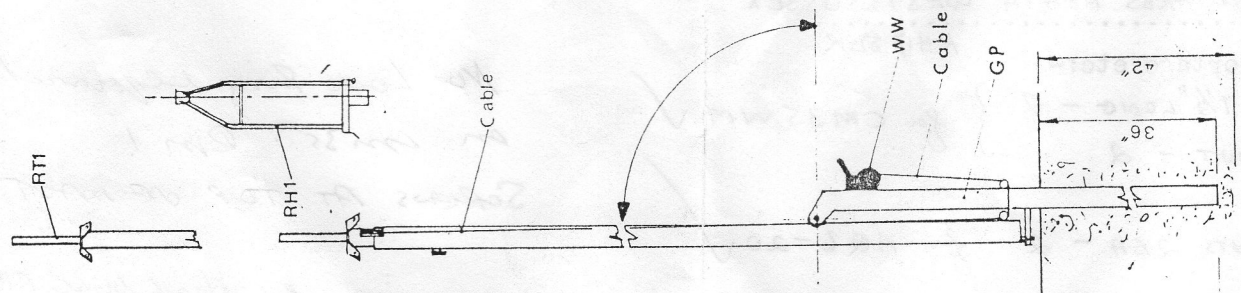

Fig 1
5. Fill the hole with suitable balast material and liquid cement, allow to set for 72 hours. Note. Refer to Fig. 1, there should be 36" of post in the ground, keep the locating bracket clear of the ground.
6. Mount the mast onto the post hinge as in Fig. 1, insert the hinge pin and retain with the split pin. Use a step ladder or similar support to keep the mast about horizontal when assembling to the post.